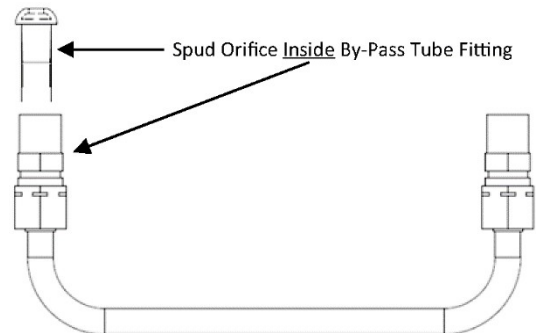
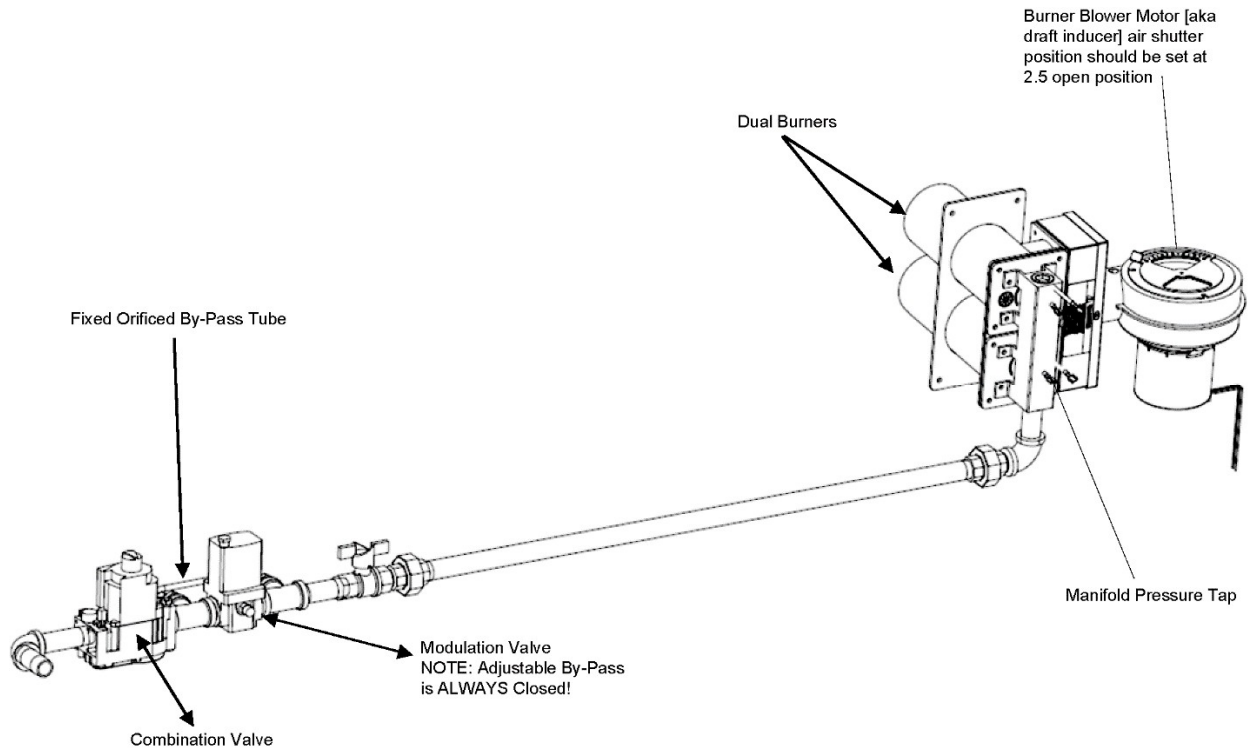

Figure 31. Bypass Orifice Inside Tube
Figure 32. Gas Train and Burner Assembly
Inlet, regulated, and pilot gas pressure readings can be taken using a digital tube manometer at the tap location shown in Figure 32, which also shows the gas train and burner assembly.
- Replace the bypass orifice (Figure 31)
3. Loosen the brass compression fittings at each end of the fixed orificed by-pass tubing. Remove the by-pass tubing from the gas train (Figure 32). Remove the mushroom spud orifice from the by-pass tubing (Figure 31) and replace with the supplied LP by-pass orifice. Remount the by-pass tubing assembly and tighten all the fittings. Check for leaks.